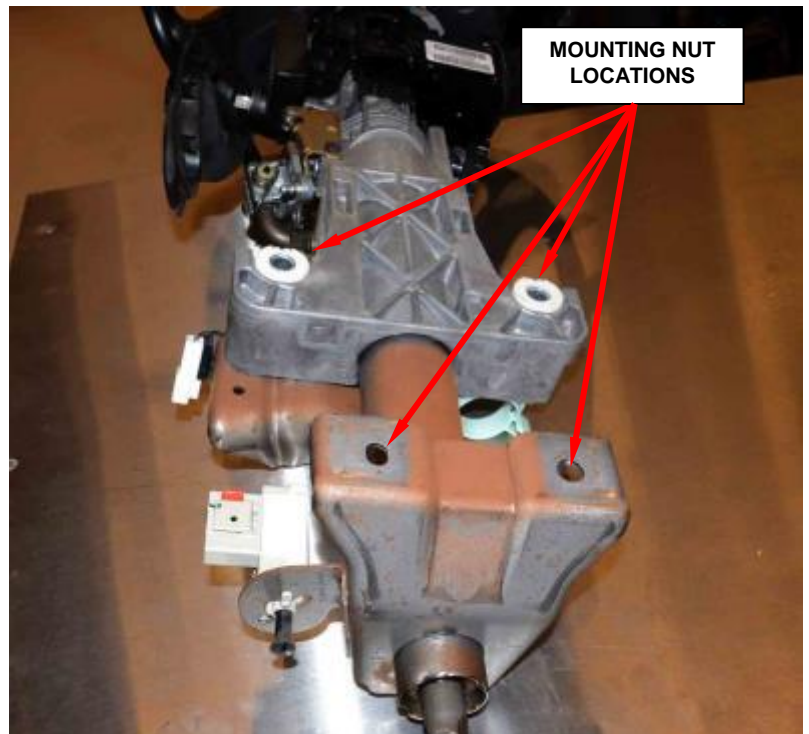

Figure 92 - Steering Column Mounting (Column Removed for Photographic Purposes)
16. Remove the four steering column mounting nuts (Figures 92 and 93).